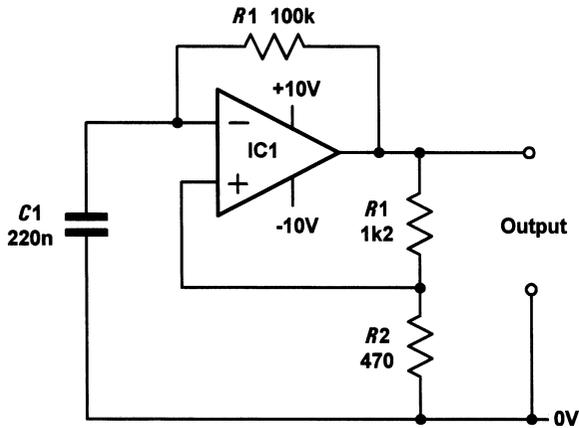

Figure 9.18
- 9.4 Determine the peak–peak voltage developed across $C1$ in Fig. 9.18.